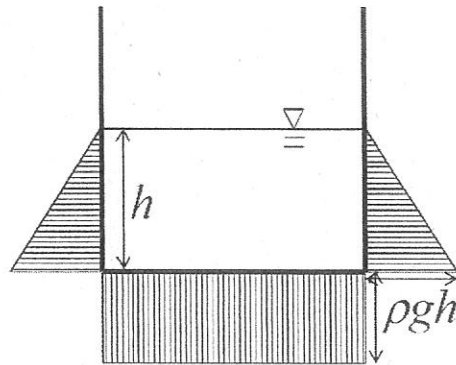

Figure 3
(2) Consider a cubic container filled with water by half up to a depth of h . Static water pressure along the side wall and the bottom is illustrated in Figure 3, where ρ is the density of water and g is the gravitational acceleration. Illustrate the pressure distributions corresponding to the following two conditions in which the container was set in motion. The motion is smooth enough for the water and the container to keep the relative stationarity. Clearly illustrate the difference in pressure distribution between the static and the following dynamic conditions.